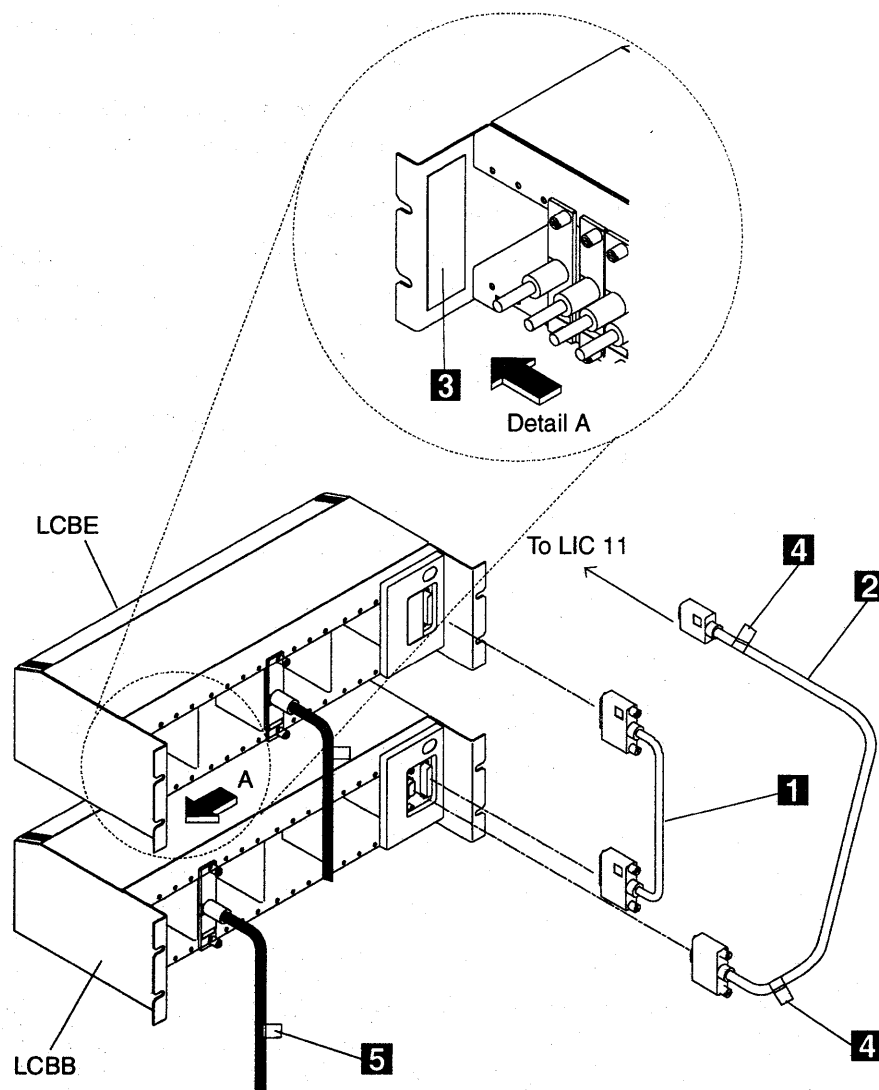

Figure 3-10. LCB Base and LCB Expansion Connections Installed with ARC Assembly A.
b. Stick the LCB label on the inner left side of the LCB (see **3** in Detail A of Figure 3-10).
- b. Stick two identical labels at both ends of the cable (see the two **4**s in Figure 3-10 on page 3-15).
**Step 7** Connect the LIC 11 cable to the LCB base and tighten the cable plug retaining screws. Refer to "Unplugging or Plugging in LIC Cables" on page 3-7 for details, and also **2** in Figure 3-10 on page 3-15.
- b. Stick the ARC labels at either end of the ARC cable (see **5** in Figure 3-10 on page 3-15). Be sure to remove any old labels first.